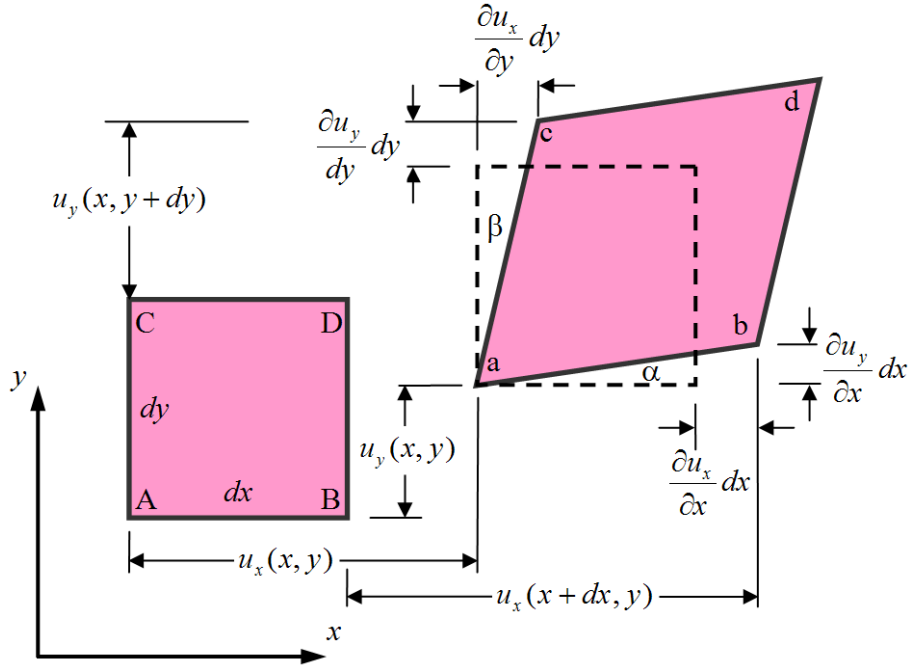

Figure 2: An infinitesimal small deformed rectangle
The relation (4) is a purely geometric one. Consider an infinitesimal small square of size  $dx$  and  $dy$ , and its deformed geometry as depicted in figure 2. The strain is defined as the stretching of the element, i.e.  $\varepsilon_{xx} = \frac{\text{length}(ab) - \text{length}(AB)}{\text{length}(AB)}$ . The complete derivations of these quantities is described well in the Wikipedia article on strain, and the result is the following relations